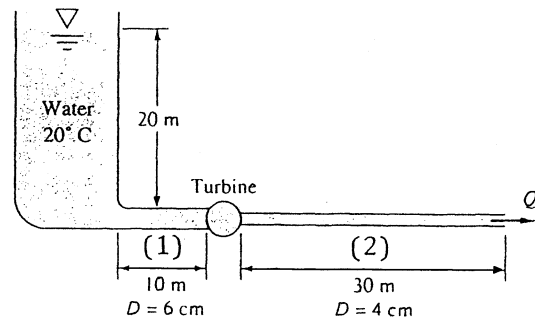

Fig. P6.76
**6.76** The small turbine in Fig. P6.76 extracts 400 W of power from the water flow. Both pipes are wrought iron. Compute the flow rate  $Q \text{ m}^3/\text{h}$ . Sketch the EGL and HGL accurately.